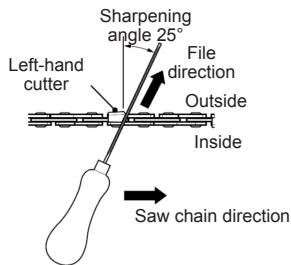

Fig. 43
5. File at an angle perpendicular to the bar, and at an angle of 25° to the direction of travel (Fig. 43).